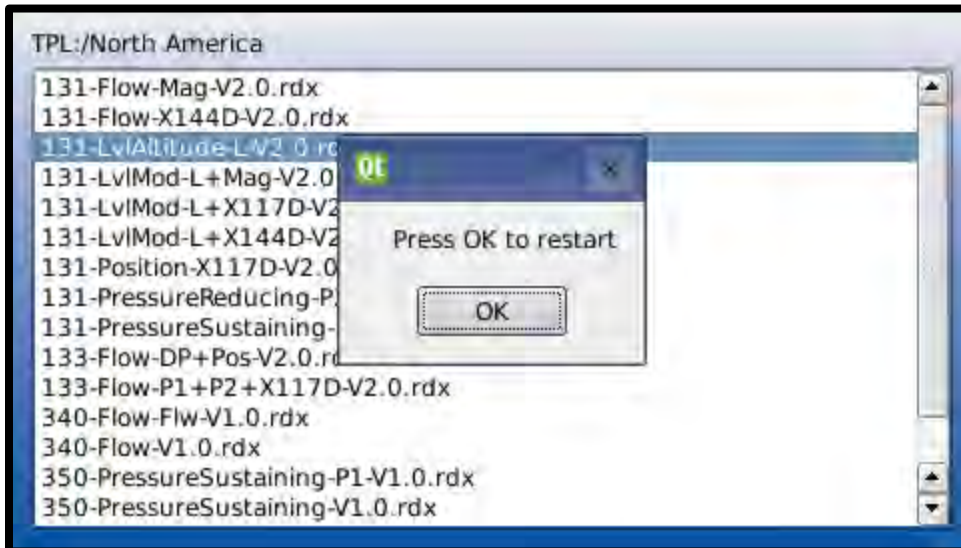

Figure 5.5
- d. Press “OK” to restart per **FIGURE 5.5**.